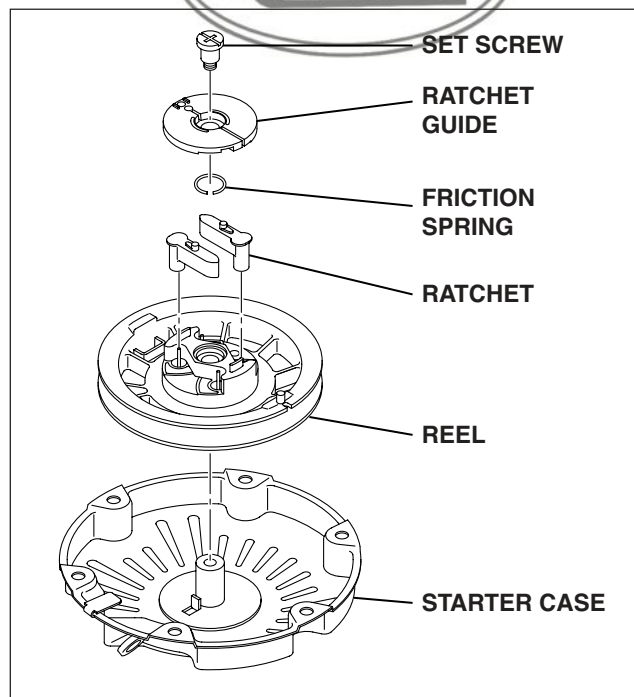

Fig. 13-2
- (2) Remove the components. (Fig. 13-2)
- (3) Remove the reel. (Fig. 13-2)
- 3 If the spring is about to pop out of the reel, repeat steps (3)-1 and (3)-2.